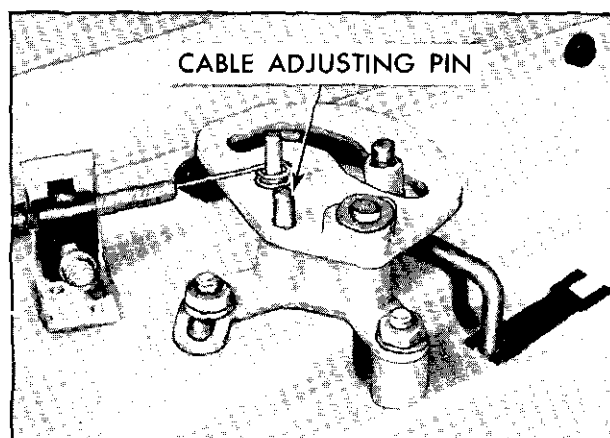

Fig. 1-19 Temperature Control Cable Adjusting Pin in Position
3. Insert dowel pin through heater cam into cam bracket (Fig. 1-19).
5. Insert a  $\frac{3}{16}$ " dowel pin (approximately 1" long) through the heater cam into the cam bracket as shown in Fig. 1-19.